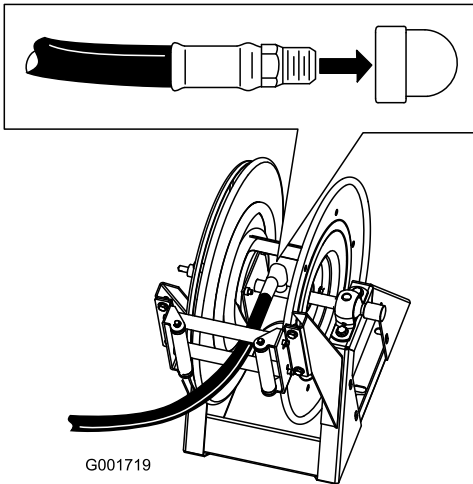

Figure 51
1. Apply PTFE sealant to the threads of the hose fitting on the long hose, and install the fitting into the connecting tube on the reel (Figure 51).